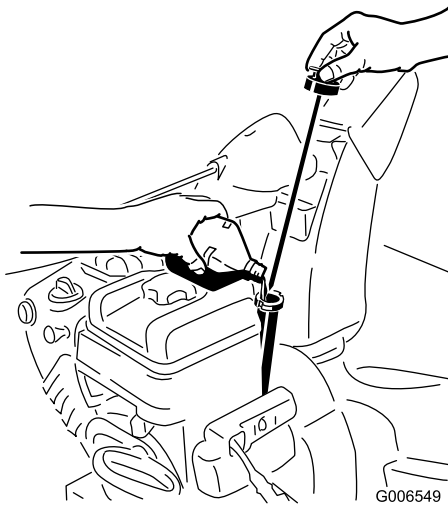

Figure 41
2. Remove the dipstick and check the oil level (Figure 41). If the oil level is below the Add mark on the dipstick, add oil. Refer to Filling the Engine with Oil.